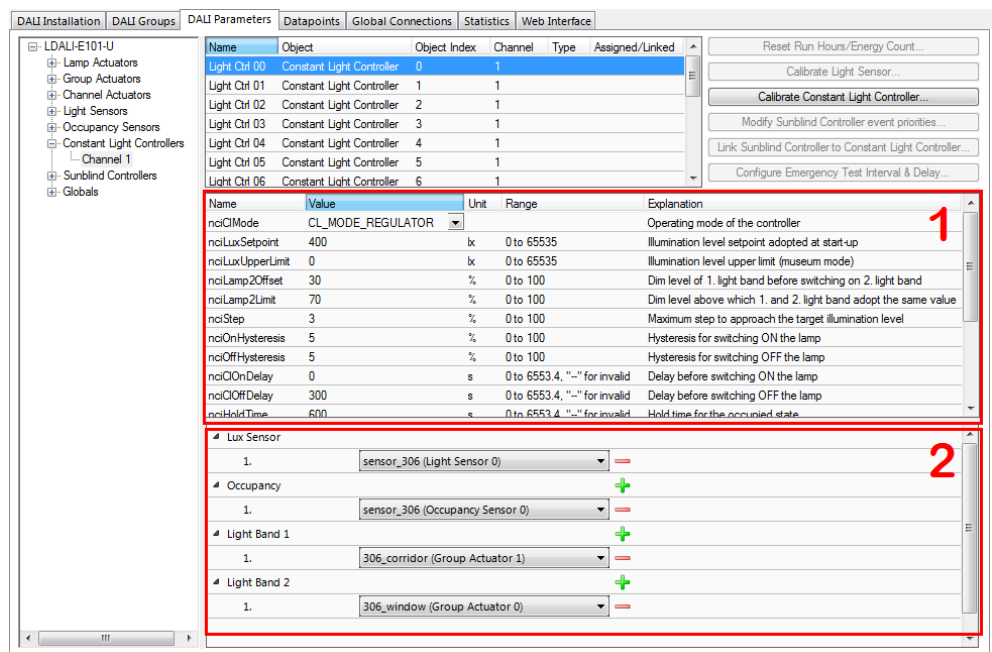

Figure 27: Parameterize Constant Light Controller.
2. Select the constant light controller with index 0 as shown in Figure 27. The parameters of the selected constant light controller are displayed in the middle of the window (1).